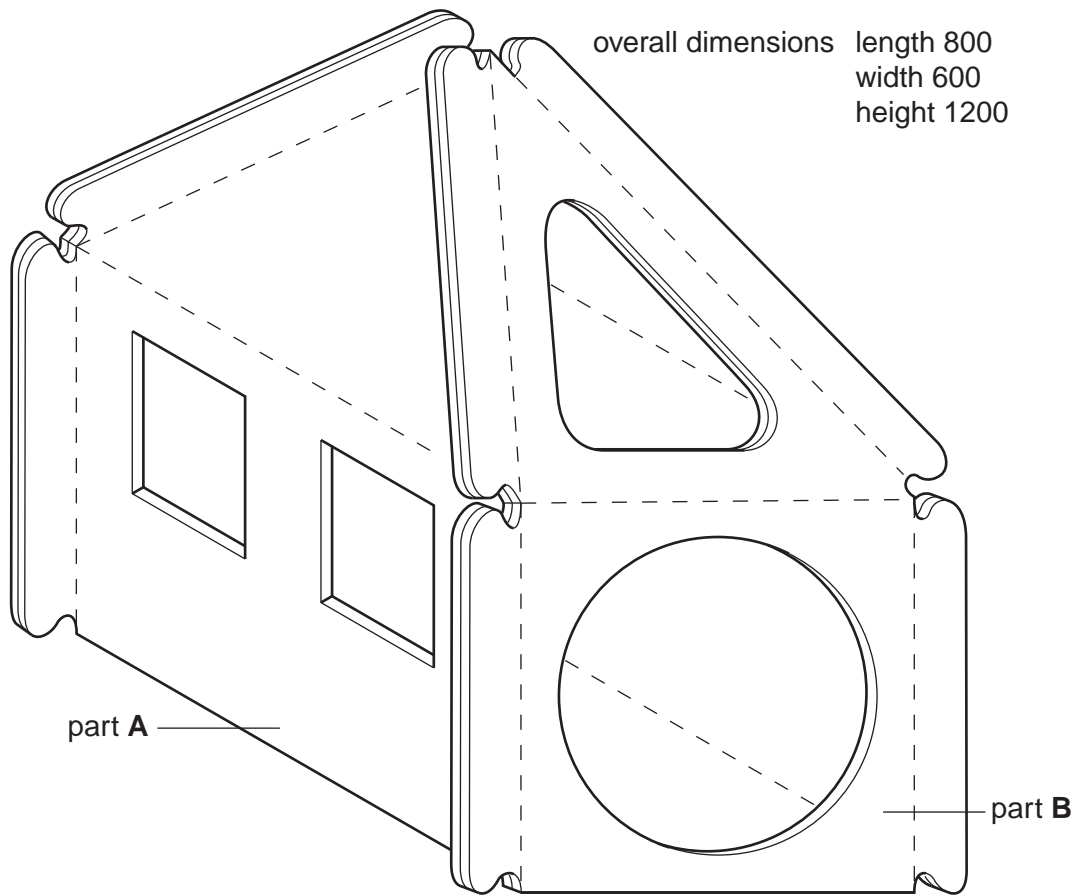

**Fig. 2**
- 2 Fig. 2 shows a pencil rack which is to be made in a school workshop.